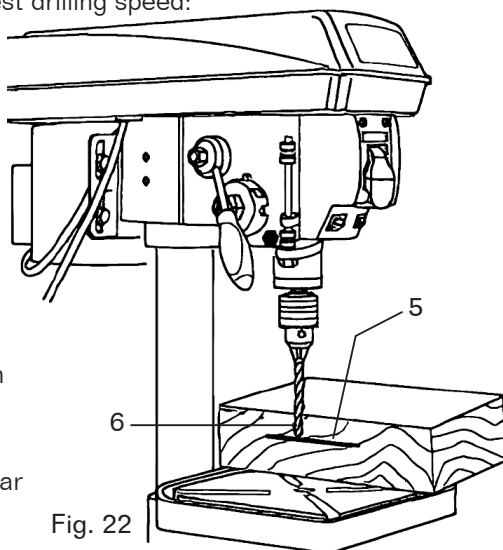

Fig. 22
1. Mark the desired depth (Fig. 22 - 5) of the drill hole on the side of the workpiece.
2. With the drill press in the OFF position, bring the drill bit (Fig. 22 - 6) down until the tip is even with the mark.